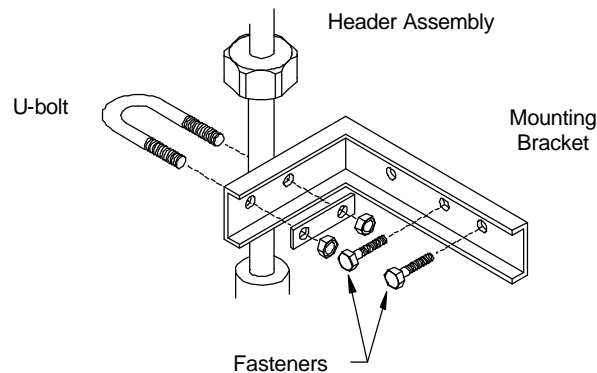

FIGURE 4
4. Mark the mounting holes and install fasteners suitable for the type of wall construction. (Figure 4)
5. Mount the manifold by placing the header on the bracket. Fit the U-bolt over the header pipe and tighten the mounting nuts. (Figure 4)